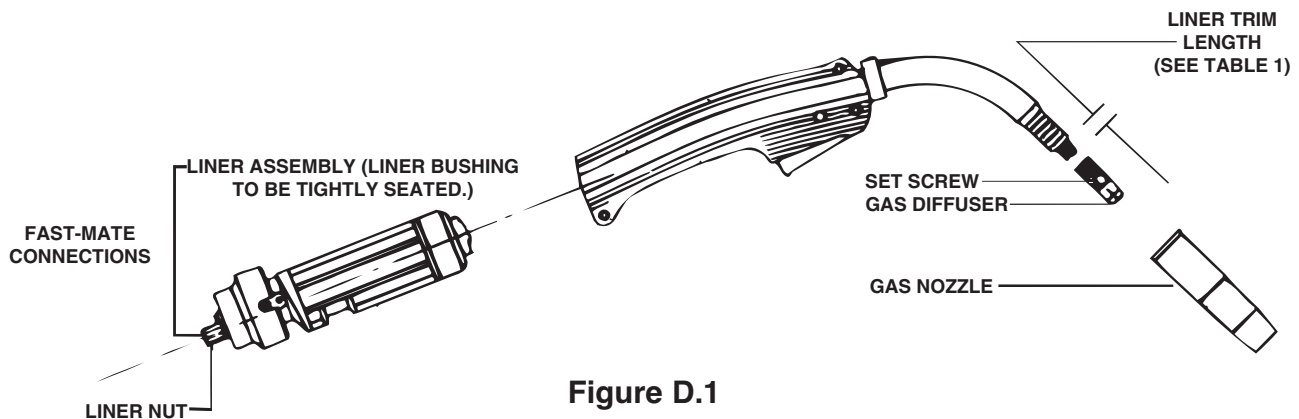

Figure D.1
- 3) Lay gun and cable out straight on a flat surface. Remove the liner nut from the connector end of the cable and pull liner out of cable. (Refer to Fig. D.1)
- 6) With the cable straight, trim liner to appropriate trim length per Table D.1 (found under Fig.D.1). Remove any burrs from the end of the liner.